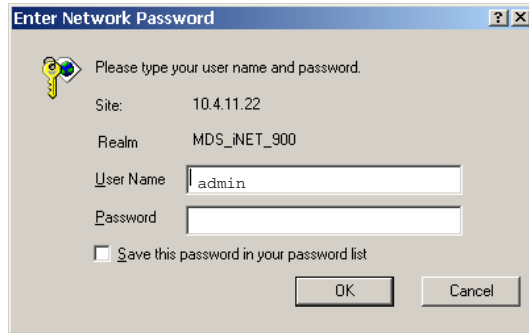

Figure 3-7. Log-in Screen when using a Web Browser
4. A log-in screen is displayed (Figure 3-7) where you enter a user name and password to access the unit’s menu system. Note that the default entries are made in *lower case*. (Default User Name: **admin**; Default Password: **admin**)